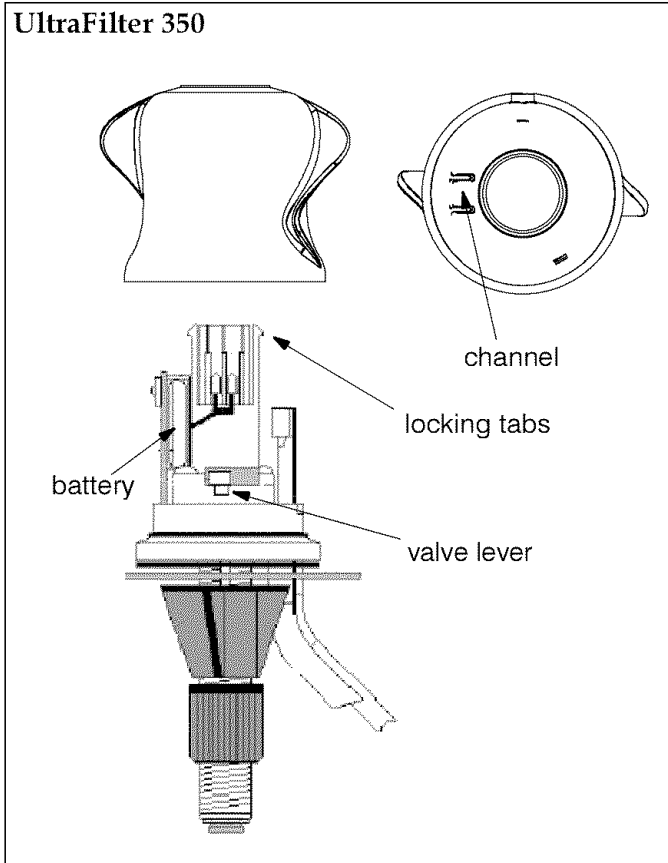

Figure 8
7. Remove the faucet knob by pinching the two locking tabs inward and then pulling upward on the knob while the tabs are pinched inward. See Figure 8.